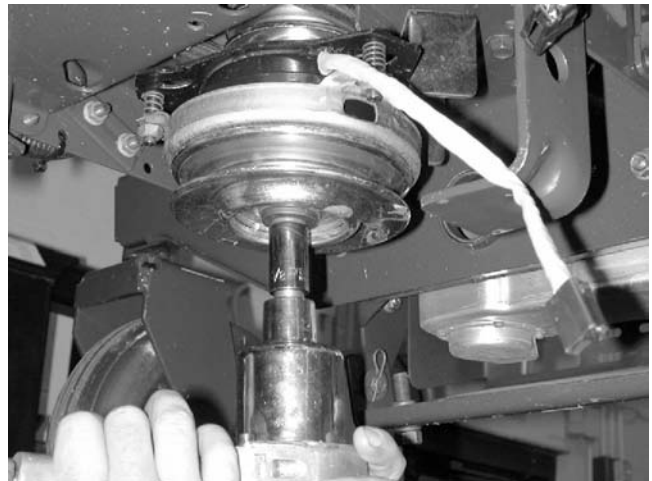

Figure 11-13
6. Loosen the PTO clutch retaining bolt with a 5/8" socket. Hold onto the PTO clutch with one hand. See Figure 11-13.